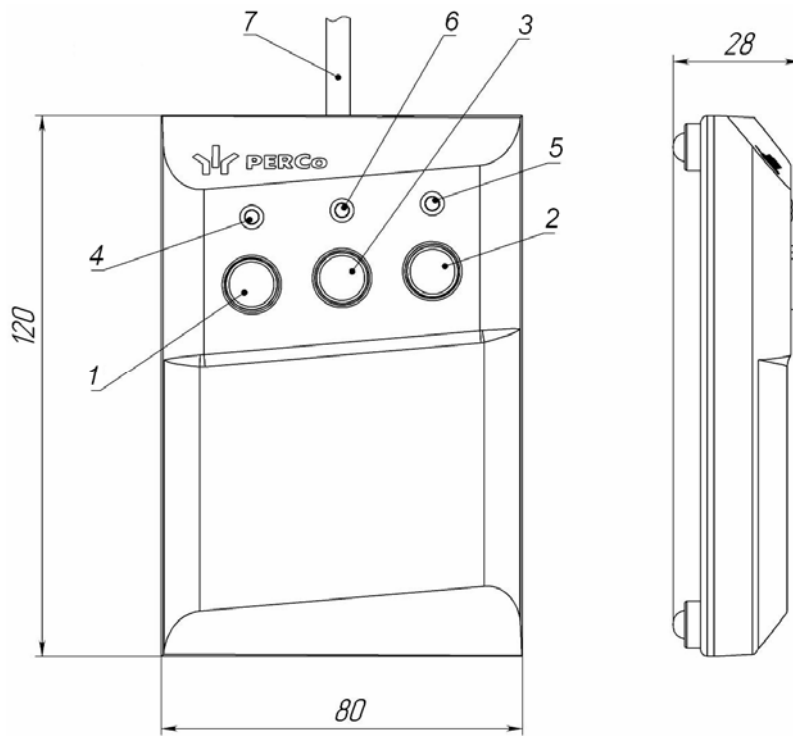
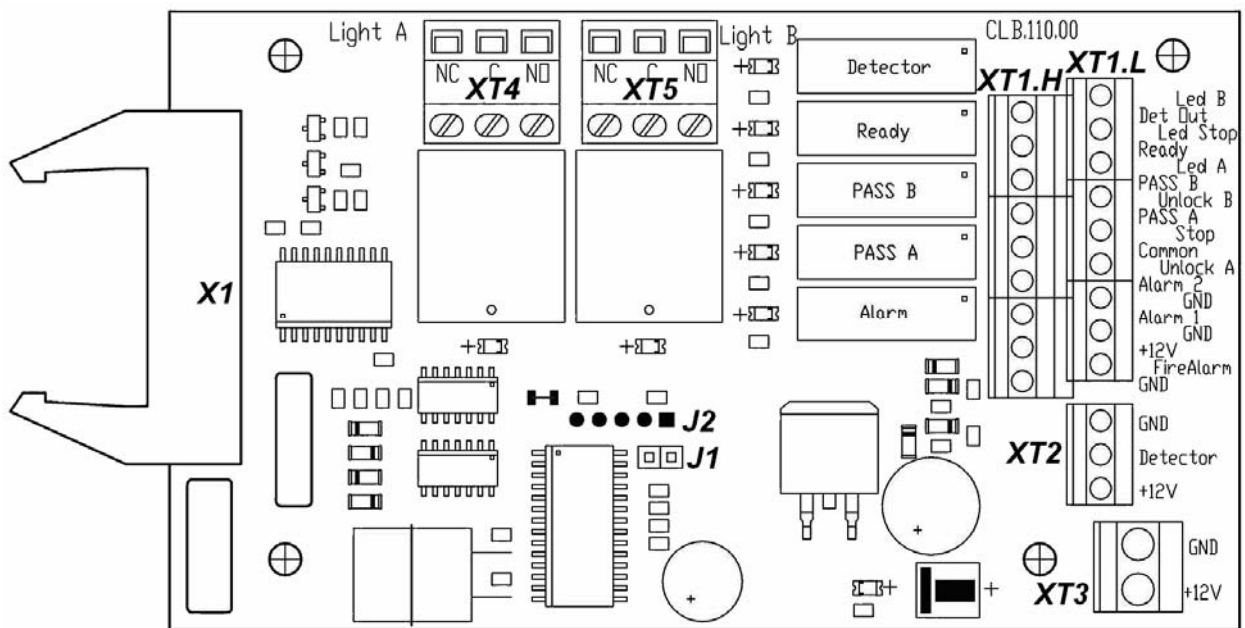
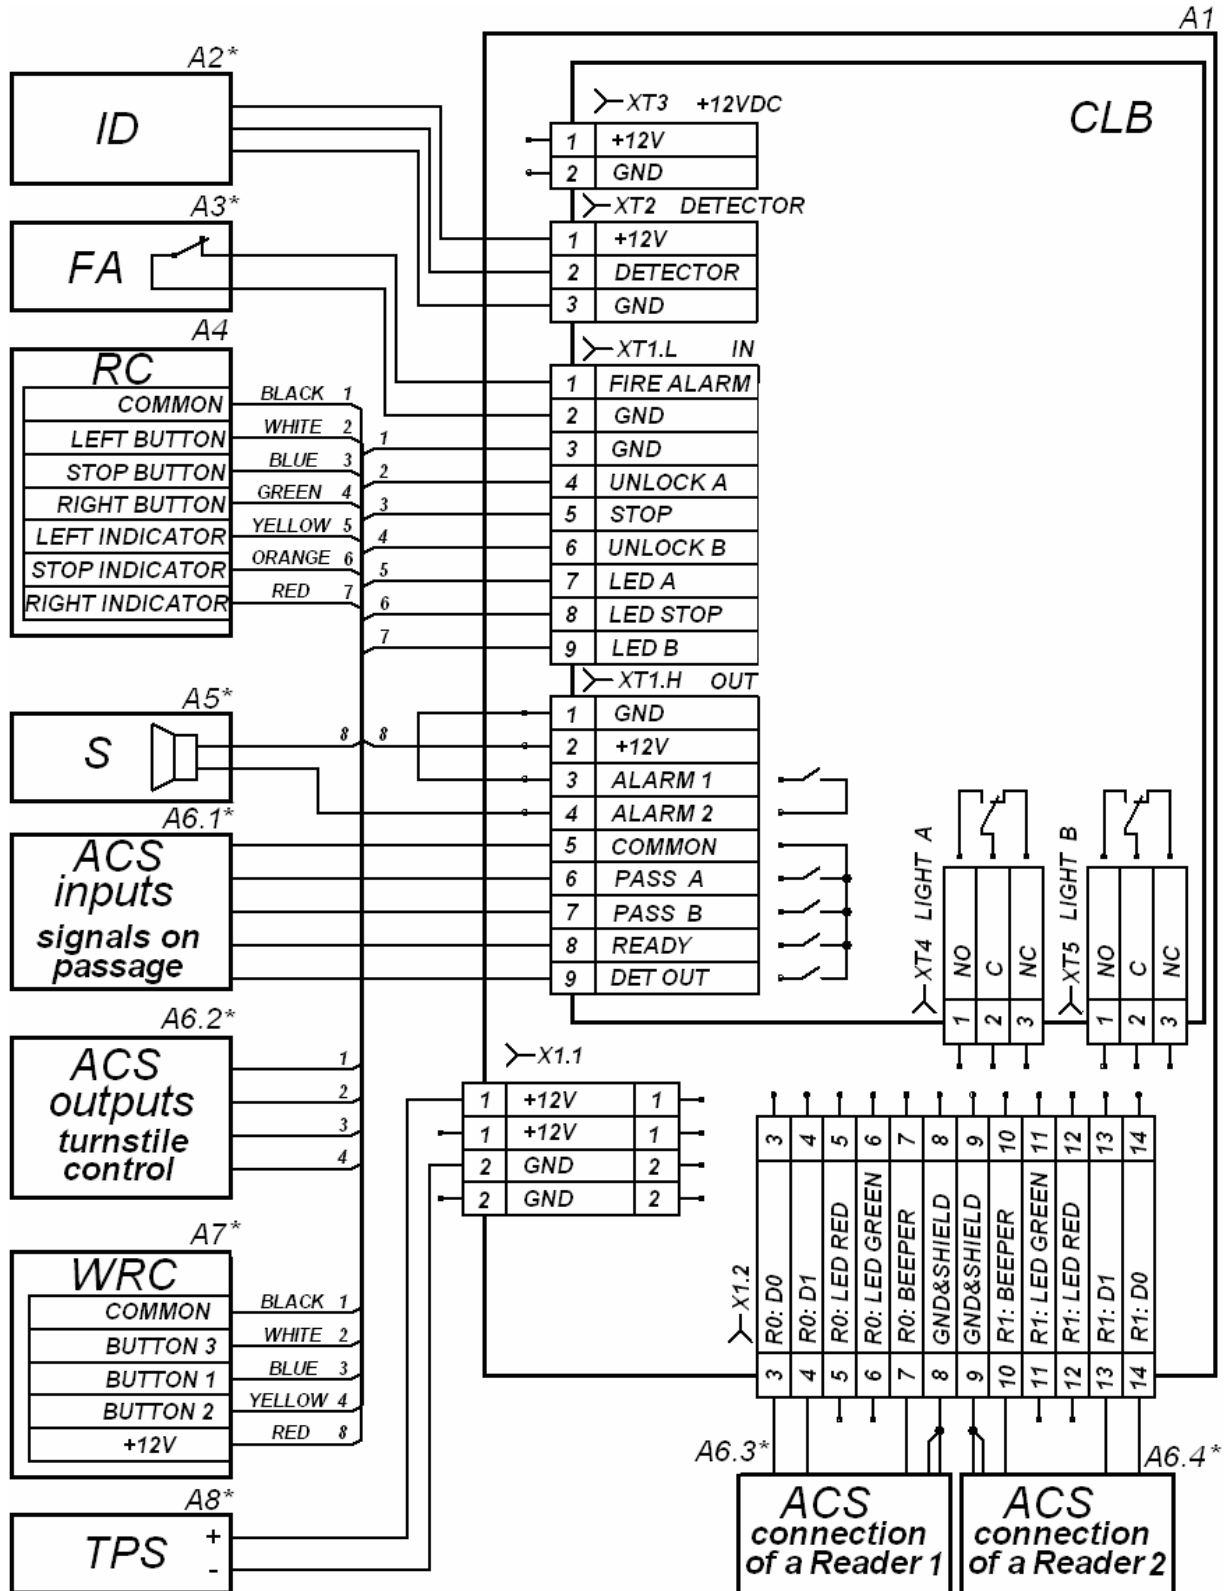

Fig. 4. RC-panel overall view
Fig. 5. The CLB
Fig. 11. Connection layout of the TB-01.1 turnstile and optional equipment ¹
5.2.3 Inside the turnstile housing there is a bracket with a CLB mounted on it with terminal clamps for connection of external devices. RC-panel, ACS outputs, WRC device (when used), intrusion detector (optional) and emergency unblocking device are connected to the CLB. Connection lines of a power supply unit and signal lines of card readers are connected to the terminal clamps for connection of external devices. External devices are connected in accordance with connection layout (Ref. Fig. 11). Layout of electrical connections inside the turnstile housing is shown in Fig. 12. The CLB is shown in Fig. 5.
5.2.4 The RC-panel is designed as a small desktop device with a shock-proof ABS plastic case and is intended for setting and indicating operating modes when the turnstile is operated manually. The RC-panel is connected to the CLB with a flexible multicore cable (14) via a **XT1.L** connector block (Ref. Fig. 5). The RC-panel overall view is shown in Fig. 4.
The front of the RC-panel houses three control buttons with LED indicators above to set passage modes of the turnstile. The “STOP” button in the middle serves for setting the “Always locked” operating mode, the right and left buttons – for unlocking the turnstile in a chosen direction. The RC-panel orientation towards the turnstile (if an operator’s terminal is placed at the backside of the turnstile housing) can be changed by swapping wires of the RC-panel connected to the contacts: *Unlock A* and *Unlock B* respectively, as well as Led A and Led B respectively (Ref. Fig. 5 and Fig. 11).
5.2.5 The CLB (Ref. Fig. 5) houses:
5.3.7 Pin assignment of the CLB connector blocks are given in Fig. 5 and on a label located on the inner surface of the turnstile top cover.
and “Alarm” relays is indicated by lighting/going out of red indicators located near the corresponding relays (Fig. 5).
5.5.2 The control mode is set by the jumper on a **J1** connector (the **J1** connector location is shown in Fig 5: the jumper is installed – the pulse control mode, the jumper is not installed – the potential control mode). The jumper is installed at delivery.
5.9.2 The intrusion detector is connected to the **XT2** connector block, and the siren is connected to the **XT1.H** connector block of the CLB according to the connection layout (Fig. 11 and Fig. 5). The intrusion detector should have normally closed contacts.
A signal on current status of the intrusion detector is constantly transmitted to the *Det Out* and *Common* contacts of the CLB **XT1.H** connector block (Fig. 5).
5.9. The emergency unblocking device is connected to the **XT1.L** connector block of the CLB in accordance with the connection layout (Fig.11 and Fig. 5). If the *Fire Alarm* input is not used, it is necessary to install a jumper between the contacts *Fire Alarm* and *GND*. This jumper is installed at delivery.
- 4 Remove the turnstile housing side covers (11), by unlocking the locks (12).
- 7 Remove the turnstile housing top cover (3) by unlocking the lock with a key (4, ref. Section 6).
- 8 Connect the power cable (15) to a connector block **X1.1** (Ref. Fig. 11). Connect the cable (14) of the RC-panel to a connector block **XT1.L** on the CLB (Fig. 5). Connect cables of other devices, when used, to corresponding connector blocks of the CLB (Ref. Fig 5 and Fig. 11).
- 9 Check serviceability and accuracy of all the electrical connections. Fix the cables using self-adhesive cable tie mounts and nylon cable ties supplied with a standard delivery set. After all cables are connected and the turnstile housing is fixed to the floor return the top cover (3) to its place (Ref. Section 6) and the turnstile housing side covers (11) in order reverse to their removing.
- 10 To mount the barrier arms into the run position remove the cover (6) from the hub after unscrewing the screw M4×25. Unscrew the M8×30 bolt on the barrier arm (5). Fit the barrier arm into the mounting hole on the hub and fasten it with the bolt. Put a
The ACS controller is connected to the control board of the turnstile in accordance with Fig. 11.
The readers are connected to an ACS controller with a shielded cable in accordance with Fig. 11.